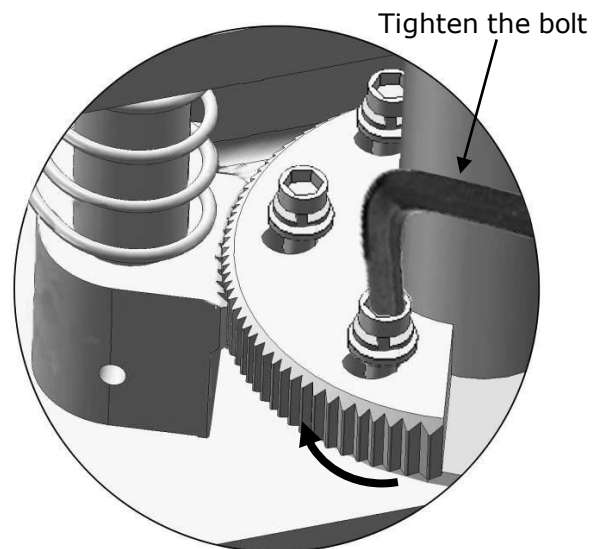

Fig. 38
4. Adjust moon gear and arm lock to make it to be meshed, then tighten the socket bolts of arm lock (See Fig. 38).